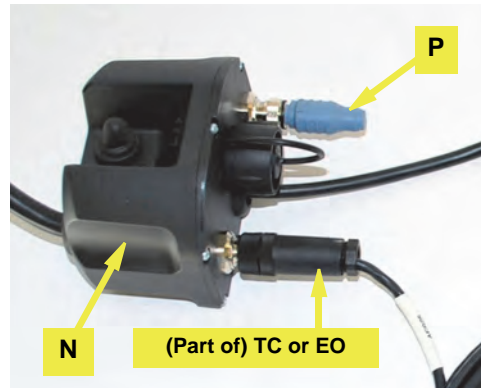

Figure 6d: CAN harness and terminator connected to junction box
e. Connect the threaded 5-pin connector on the CAN bus harness **TC** (eDriveTC) or **EO** (eDriveX) to either of the threaded connectors on the junction box **N**. Connect the CAN bus terminator **P** to the other threaded connector on the junction box (Figure 6d).